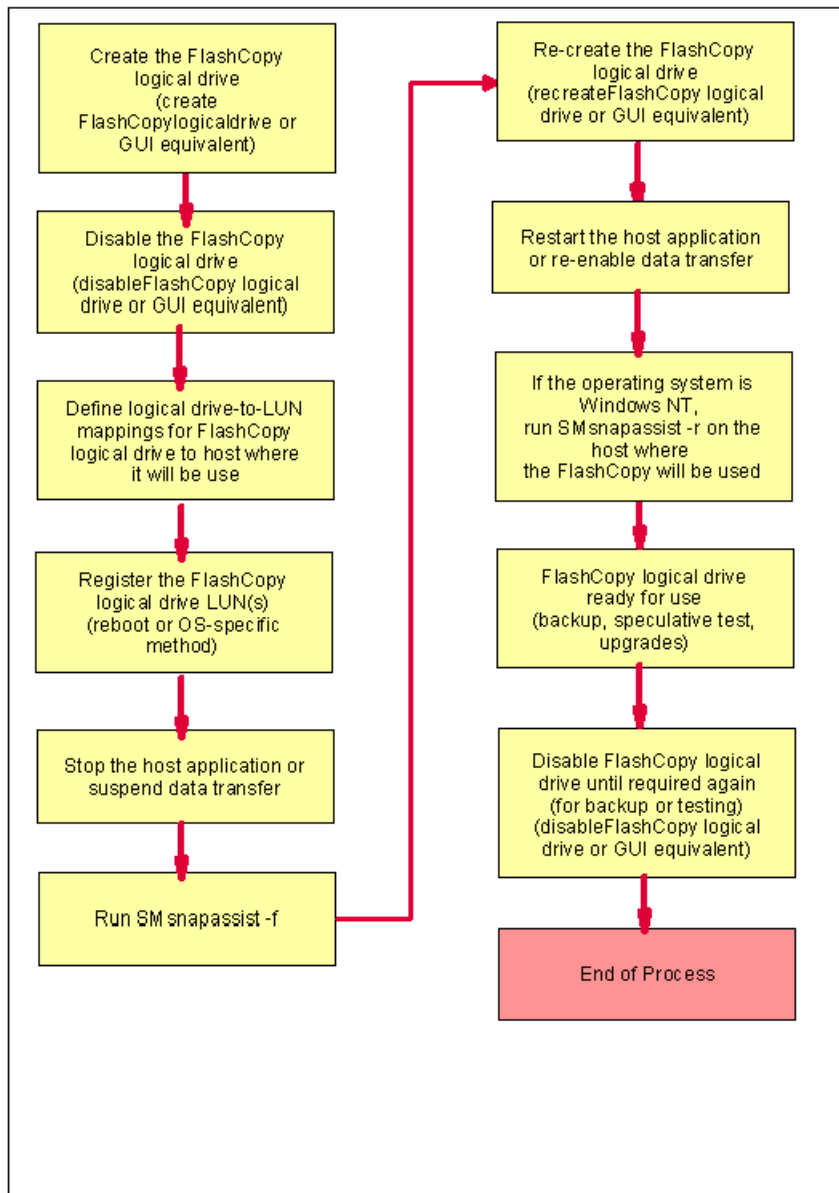

Figure A-1 Creating a FlashCopy logical drive: Windows basic/regular disks
- ▶ Create a FlashCopy logical drive on Windows 2000 or Windows NT (using basic or regular disks). See Figure A-1.